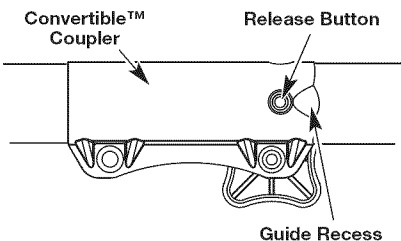

Fig. 4
NOTE: Aligning the release button with the guide recess will help installation (Fig. 4).
2. Press and hold the release button (Fig. 4).